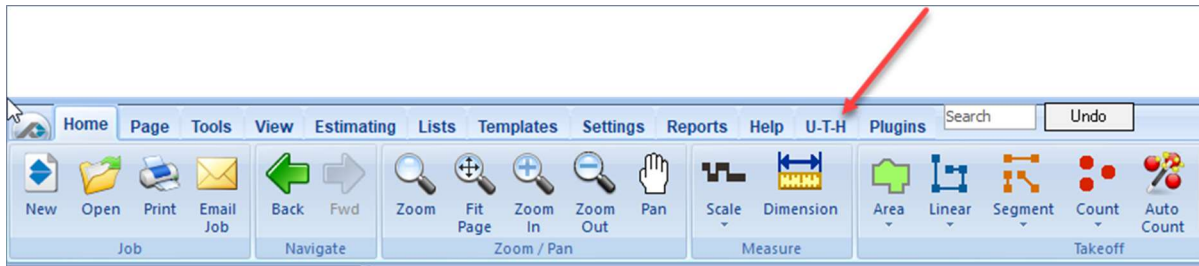

Figure 2
6. An **U-T-H** (for "Under-the-Hood") tab now appears on the top ribbon bar (see the red arrow in Figure 2). Click on **U-T-H**.
See Figure 2 for the **Settings Advanced Properties** window. Note that you may or may not have some of these property values in your version of the software. API calls for each of these are covered in alphabetical order.